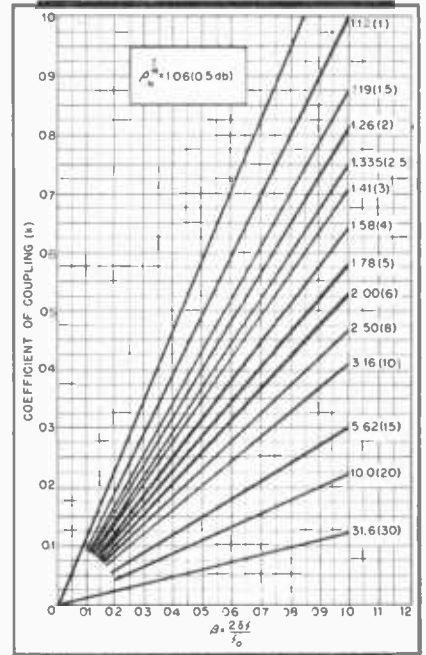

Figure 4
A second useful family of curves has been prepared by the author, as shown in Fig. 4. From these the selectivity characteristic may be plotted without computation when  $k$  is known. Likewise, the value of  $k$  corresponding to a value of  $\rho_N^{1/N}$  may be found for a given value of  $\beta$ . These curves may be used to design an f-m transformer as follows:
3. From Fig. 4, using the value of  $\beta_1$  found above, obtain  $k$  for the condition  $\rho_N^{1/N} = \rho_1^{1/N}$ .